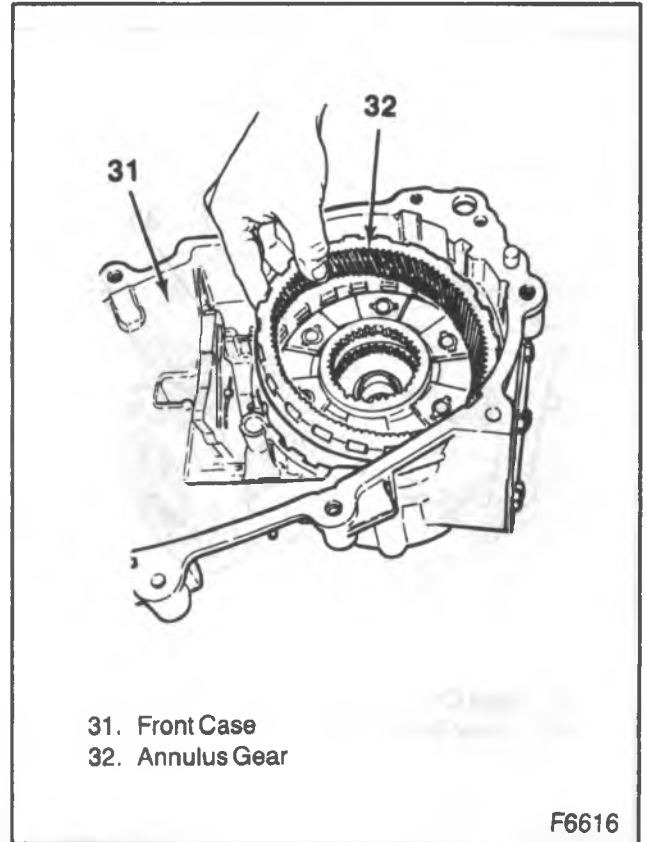
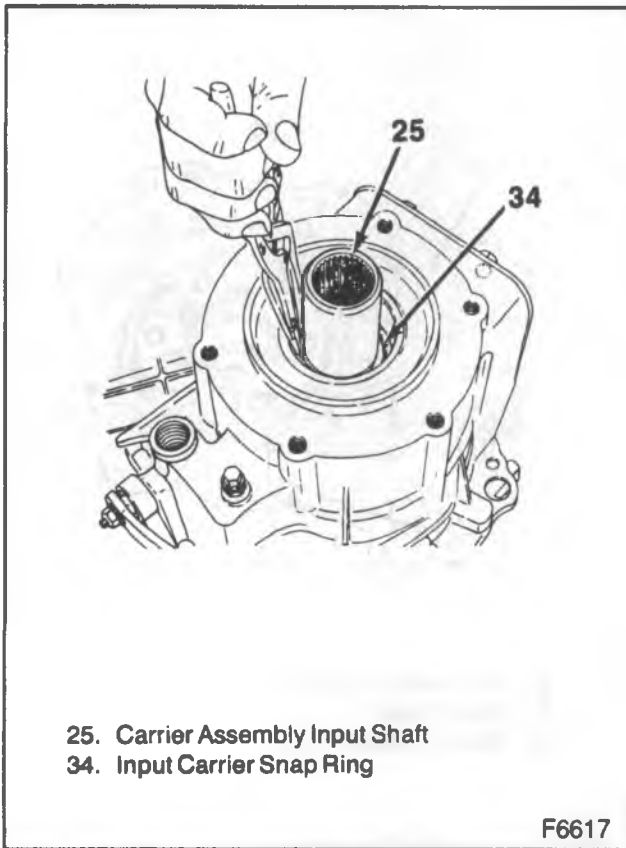

Figure 14—Removing the Annulus Gear
Figure 15—Removing the Carrier Assembly Snap Ring
12. Input carrier snap ring (32) to the input carrier (25) (figure 15).
13. Mainshaft front oil seal (33) to the front case (31) using J 37668.
14. Annulus gear (32) to the front case (31) (figure 14).